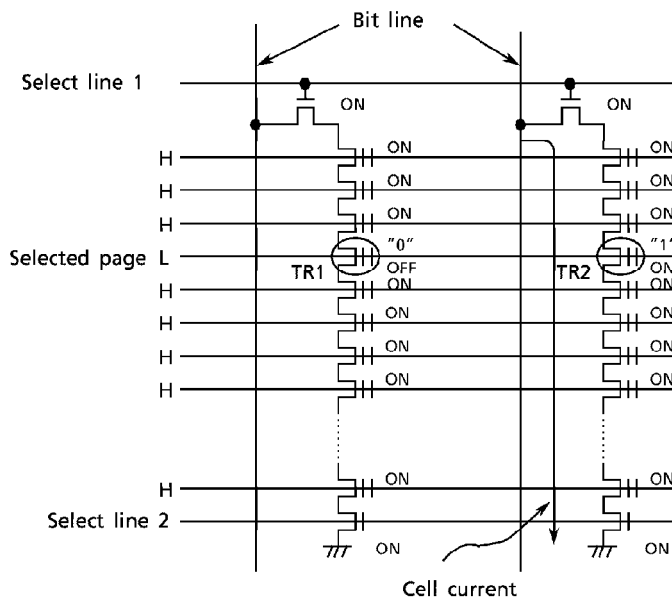

Figure 20. TC58V32FT Read Device Physics
Figure 20 shows memory cell level details of the Read operation mechanism:
- (1) A high voltage is applied to Select lines 1 and 2 in the block which includes the selected page, so that the 16 NAND memory cells are connected to the Bit line and ground.
- (2) 0 volts is applied to the control gates of the selected page and a high level voltage is applied to the control gates of the unselected pages.
- (3) In Figure 20, transistor TR2 with data "1" turns on, transistor TR1 with data "0" turns off, and all other unselected transistors turn on.
- (4) The precharged bit line tied to TR2 is discharged through TR2 as cell current flows to ground, while the precharged bit line tied to TR1 remains high because current does not flow. The sense amplifiers tied to the bit lines thus sense the voltage levels as "1" and "0" respectively.